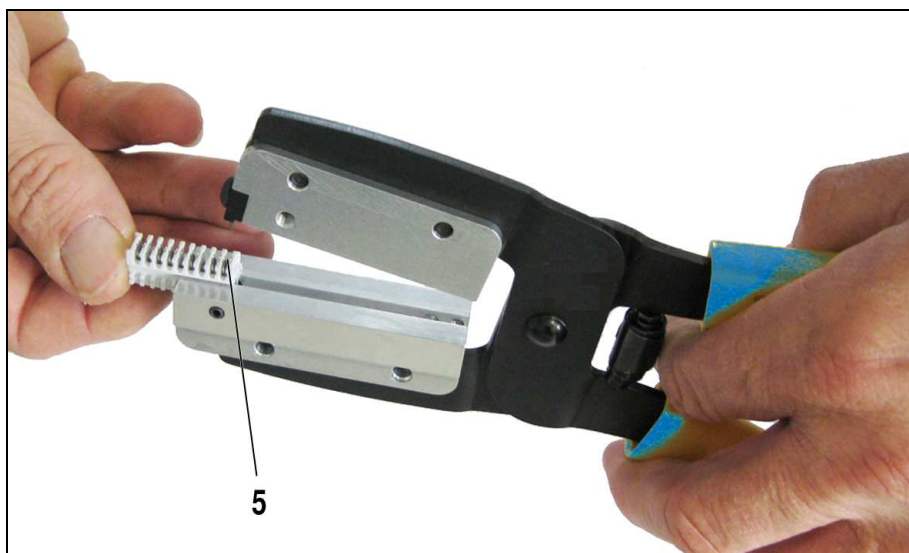

Fig. 3: Insertion of connector housing
- ▶ Push the connector housing into the guide groove (4) until the stuffer (2) is positioned above the first chamber (Fig. 3 item 5) which is to be terminated. The housing will arrest in each position.